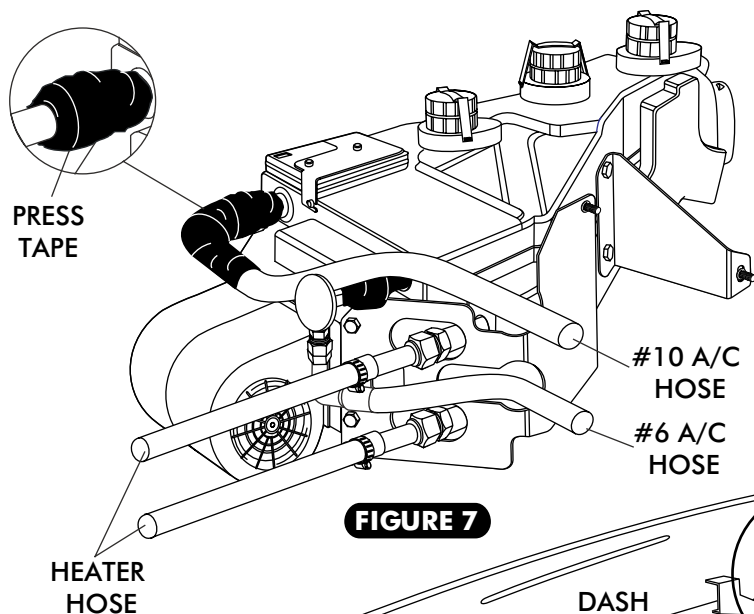

FIGURE 7
- ☐ LAY EVAPORATOR SUBCASE ON PASSENGER SIDE FLOOR BOARD. INSTALL A/C & HEATER HOSE ON EVAPORATOR AS SHOWN IN FIGURE 7, PAGE 11 AND HOSE INSTALLATION ON PAGE 13 AND PAGE 14.
- ☐ **(NOTE: WRAP THE #10 FITTING CONNECTIONS WITH PRESS TAPE. SEE FIGURE 7, PAGE 11.)**
- ☐ ROUTE A PIECE OF HEATER HOSE FROM THE WATER PUMP TO THE TOP HEATER FITTING OF HEATER CORE AS SHOWN IN FIGURE 7, PAGE 11 AND FIGURE 11 BELOW. SECURE USING HOSE CLAMPS.
- ☐ ROUTE A PIECE OF HEATER HOSE FROM THE INTAKE TO THE BOTTOM HEATER FITTING OF HEATER CORE AS SHOWN IN FIGURE 7, PAGE 11 AND FIGURE 11, BELOW. INSTALL HEATER CONTROL VALVE IN-LINE WITH INTAKE MANIFOLD (PRESSURE SIDE) HEATER HOSE, SECURE USING HOSE CLAMPS AS SHOWN IN FIGURE 11, BELOW. **NOTE PROPER FLOW DIRECTION.**
- ☐ ROUTE A PIECE OF HEATER HOSE FROM THE WATER PUMP TO THE TOP HEATER FITTING OF HEATER CORE AS SHOWN IN FIGURE 7, PAGE 11 AND FIGURE 12 BELOW. SECURE USING HOSE CLAMPS.
- ☐ ROUTE A PIECE OF HEATER HOSE FROM THE INTAKE TO THE BOTTOM HEATER FITTING OF HEATER CORE AS SHOWN IN FIGURE 7, PAGE 11 AND FIGURE 12, BELOW. INSTALL HEATER CONTROL VALVE IN-LINE WITH INTAKE MANIFOLD (PRESSURE SIDE) HEATER HOSE, SECURE USING HOSE CLAMPS AS SHOWN IN FIGURE 12, BELOW. **NOTE PROPER FLOW DIRECTION.**